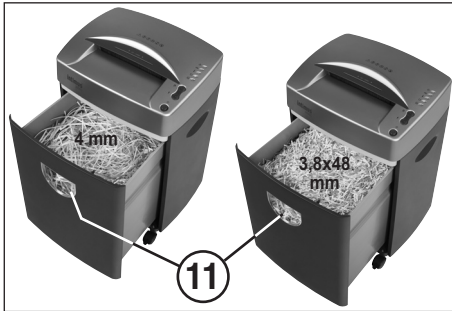

fig. 3
RECEPTACLE FULL INDICATOR (Fig. 3)
When the shredded material becomes visible in the “receptacle full” window (11) (fig. 3) it is time to empty the receptacle.
EMPTYING THE RECEPTACLE (Fig. 3):